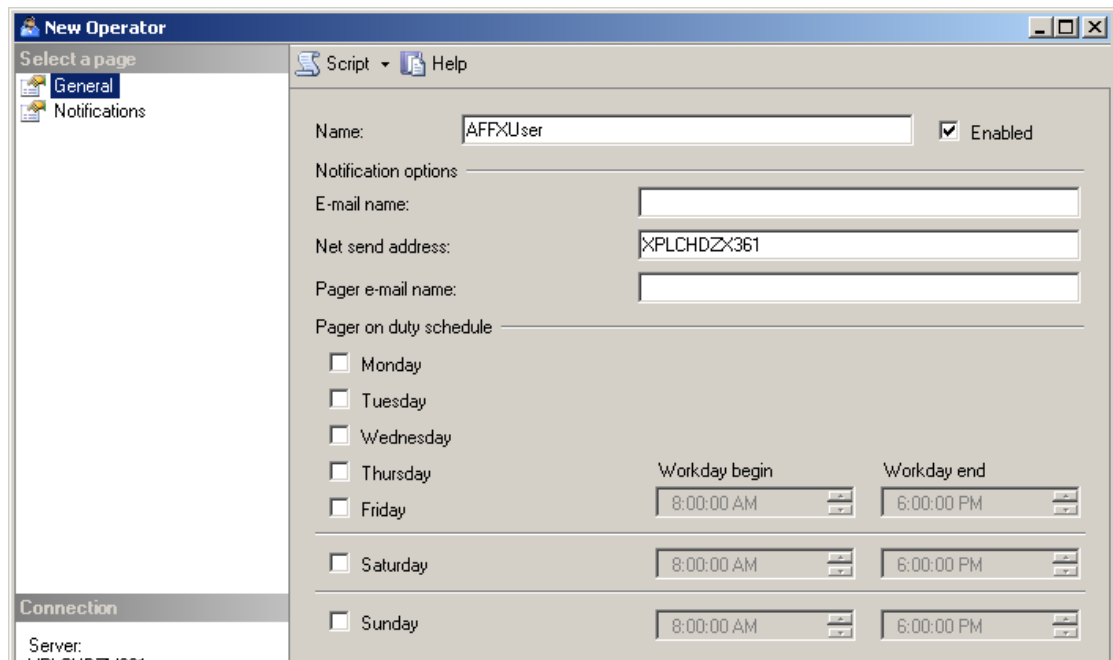

Figure 7.10 Creating an Operator in SQL Server
6. In the Net send address box, enter the name of the computer (Figure 7.10).